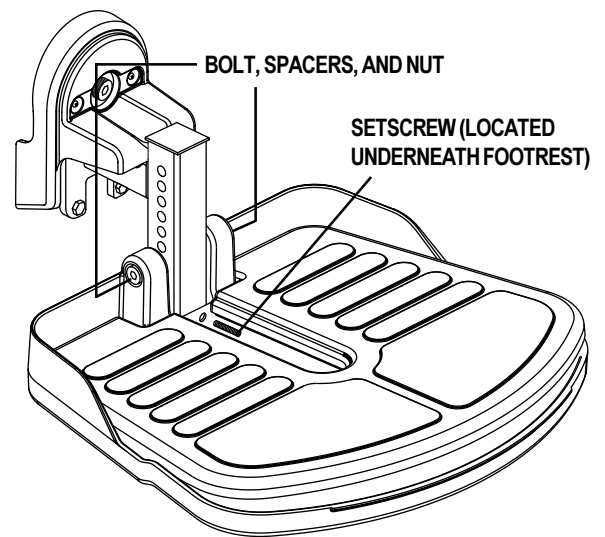

Figure 13. Footrest Height and Angle
1. Use a hex key to remove the bolt, spacers, and nut from the footrest. See figure 13.
You can adjust the angle of the footrest with a hex key. See figure 13.